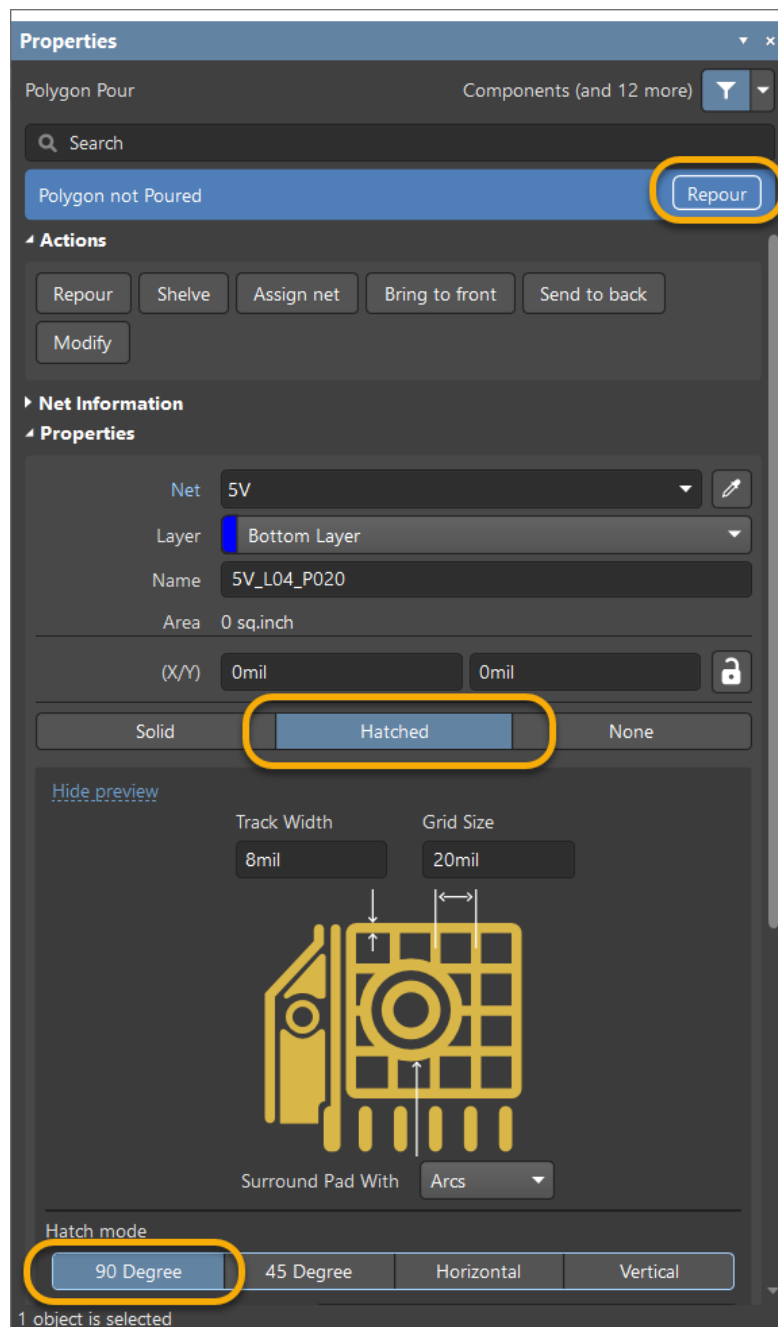

Figure 7. Changing the Polygon fill mode
28. Change the *Fill Mode* to **Hatched** as shown in Figure 7. After changing it to **Hatched**, the polygon will need to be repoured.
29. The repour dialog will be shown at the top of the *Properties* panel, as shown in Figure 7. Click the **Repour** option as shown. The polygon can also be repoured by going to **Tools » Polygon Pours » Repour All**.